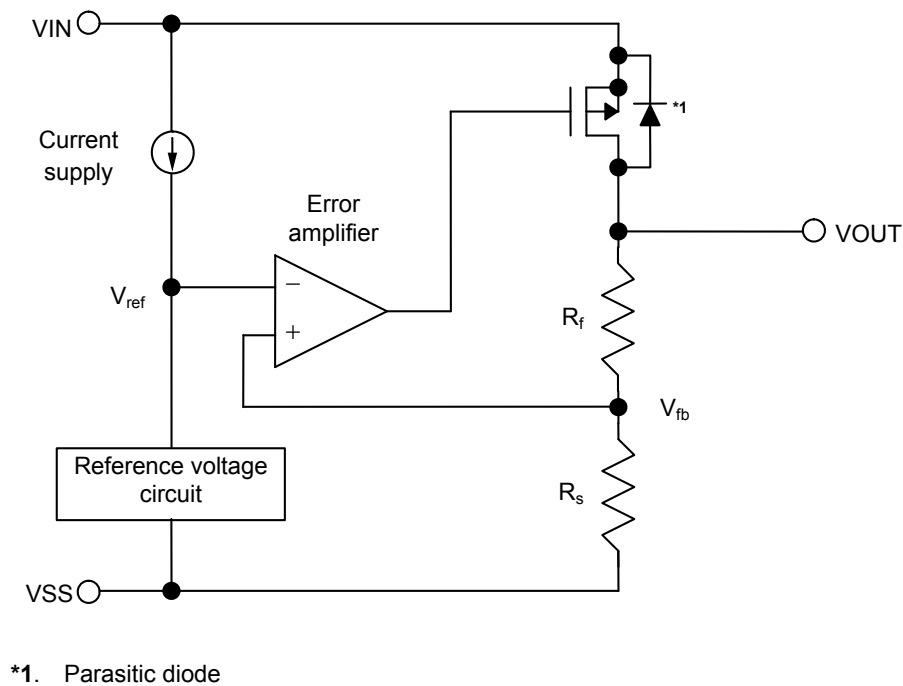

**Figure 34 Block Diagram (Regulator Block)**
**Figure 34** shows the block diagram of the regulator block.